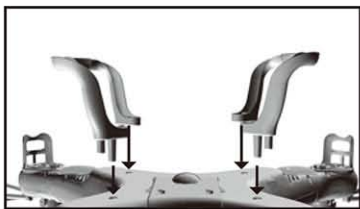

Figure.1
1. Use a screwdriver to remove the screw on the back of transmitter, then open the battery cover (Figure 1).
1. Install the landing skids to the bottom of quadcopter (Figure 1).
1. Push the camera into a hold on the battery cover (Figure 1).